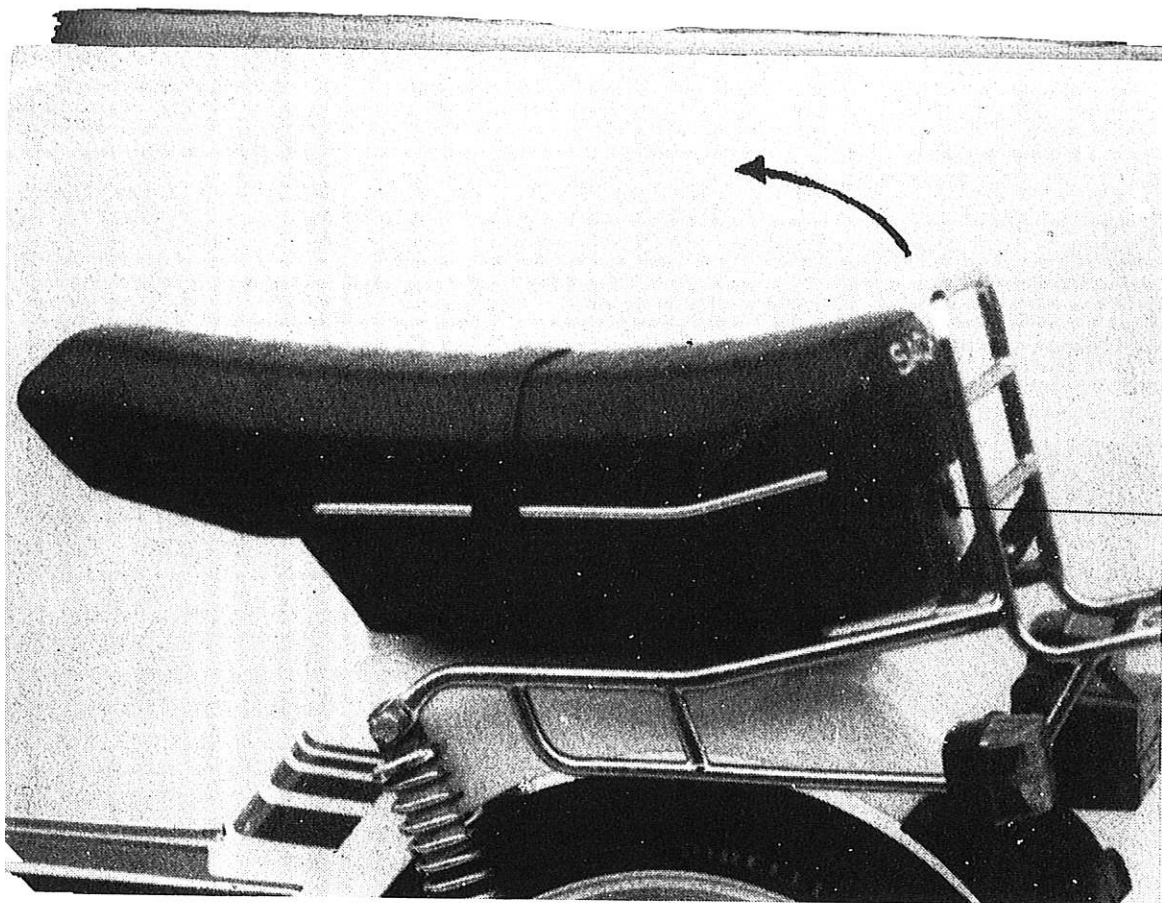

Fig. 10
The tools and air pump are well protected and readily attainable in a container underneath the seat. To open the container, push lever (1) to the left side and lift seat towards the front. This for the TAXI LUXE model (FIG. 10) and the SAXY LUXE model.